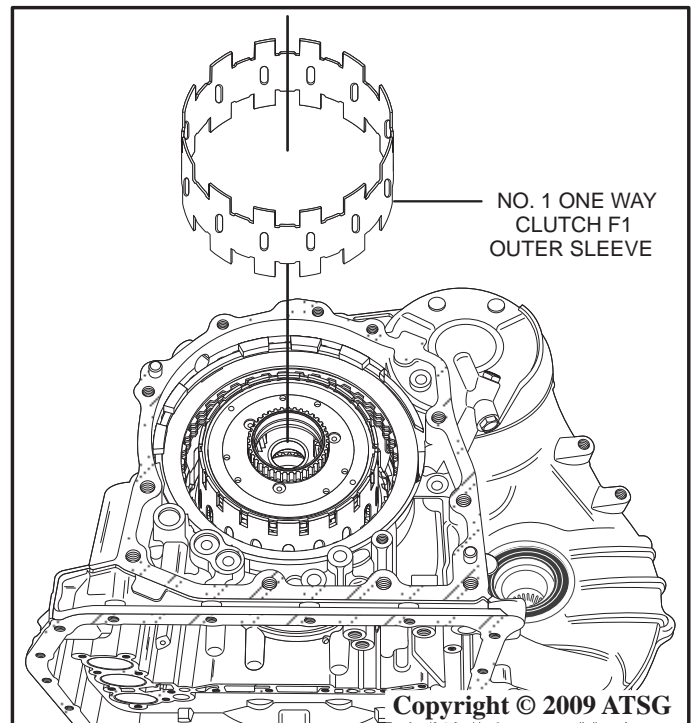

Figure 48
78. Remove the No. 1 one way clutch (F1) outer sleeve by lifting the sleeve straight up as shown in Figure 48.